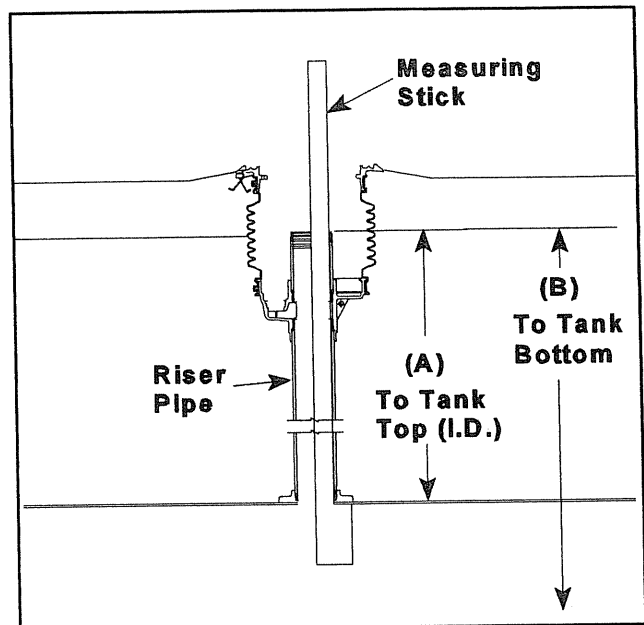
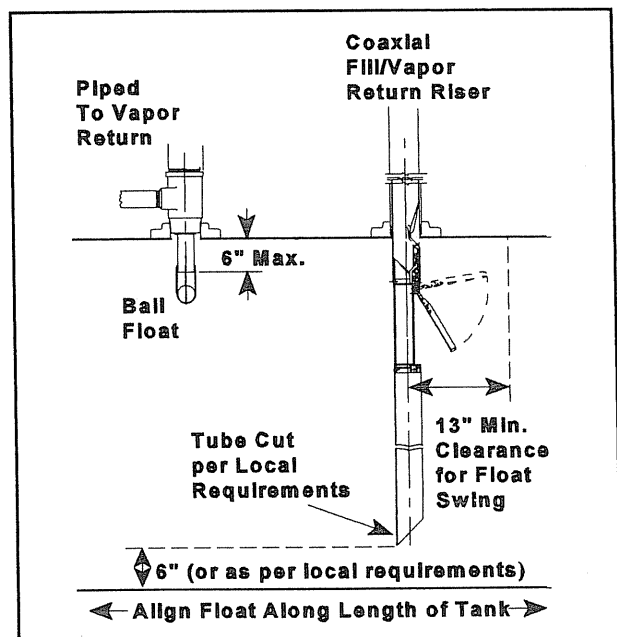

Figure 1
Figure 15
Measuring from the underside of the inlet tube flange, mark the overall length of the drop tube a distance of (B) minus 6" or as per local codes or requirements. Determine dimension (B) from the measurements taken in Step 1, Figure 1 (Top of the riser pipe to the bottom of the tank). Saw off the excess tube at a 45 degree angle and file off any sharp burrs (Refer to Figure 15).